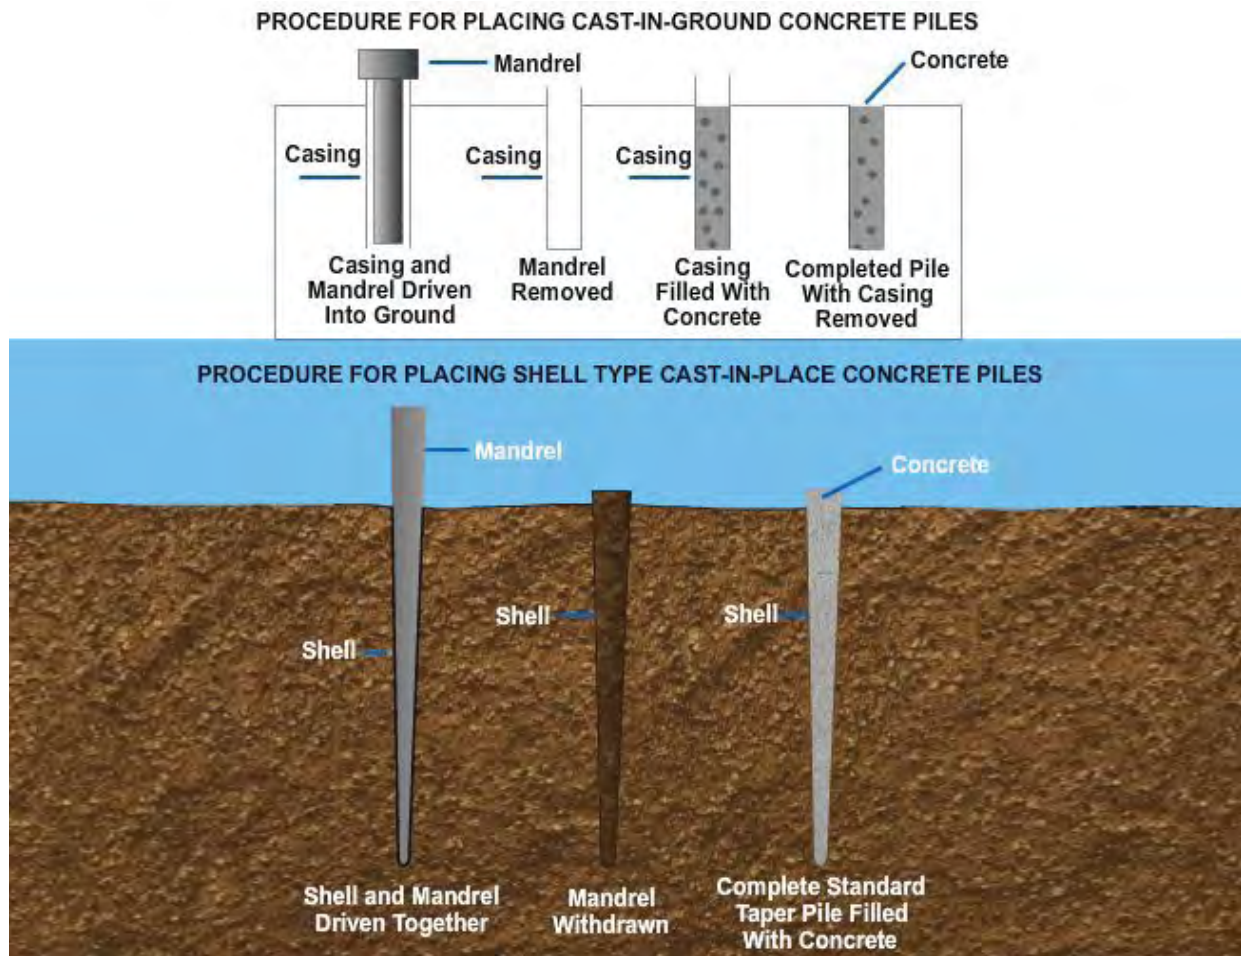

Figure 21-39 – Cast-in-place concrete piles.
- Cast-in-place concrete piles may be used when conditions are favorable. They are made by pouring concrete into a tapered hole or cylindrical form previously driven into the ground or into a hole in the ground from which a driven mandrel has been withdrawn. The left-in-place form may be a steel shell heavy enough to be driven without a mandrel, or it may be a steel form designed for driving with a mandrel that is removed on completion of driving, as shown in *Figure 21-39*.